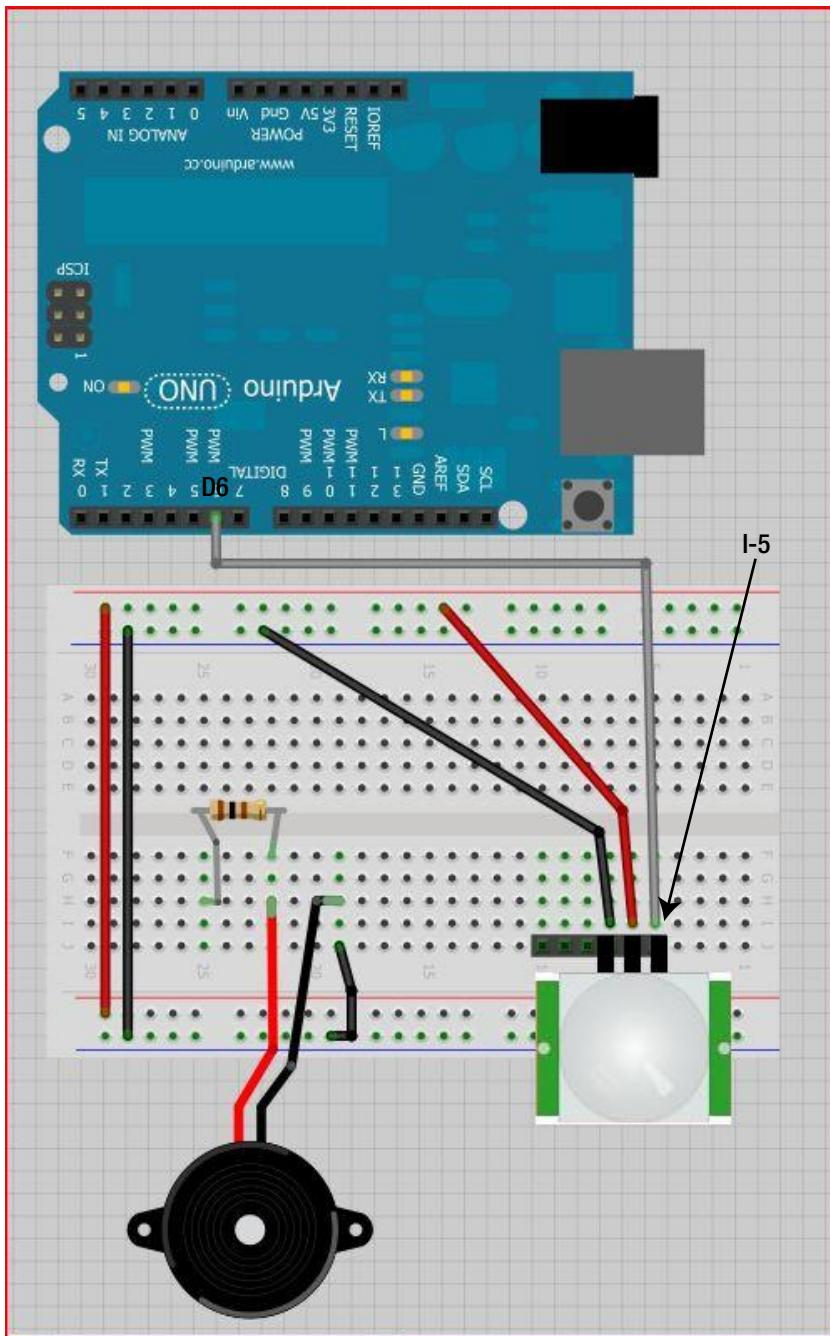

Figure 19-11. Connect the OUT pin of the PIR sensor to digital pin 6 of the Arduino
10. Now let's bring the Arduino into the circuit. Connect the Out pin (refer to Figure 19-1) of the PIR sensor to the Arduino by running a wire (we used green) from I-5 to D6 (digital pin 6) on the Arduino. Figure 19-11 illustrates this process.